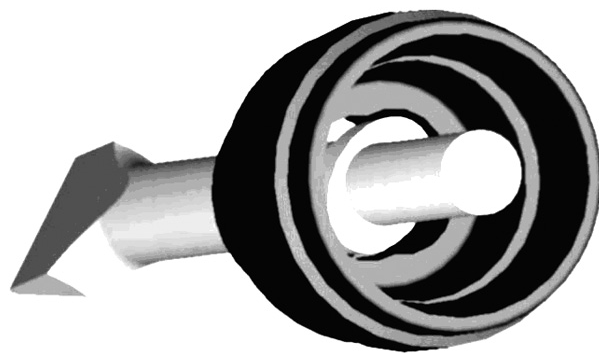

Fig. 3
5. Turn the chisel 90° and let the flange of the chisel rest on the bottom of the ellipse slot as shown. (See Fig. 3.).